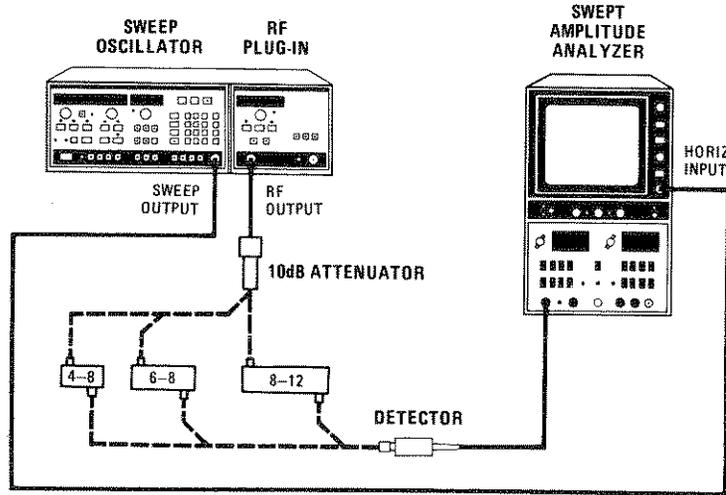

Figure 5-18. Harmonics Test Setup
1. Connect equipment as shown in Figure 5-18, with the 4 to 8 GHz band pass filter in the RF path. Select 8350A **MOD** and **RF BLANK**. Sweep from 2 to 8.4 GHz at a leveled power of +16 dBm (+15 dBm for Option 002 instruments).